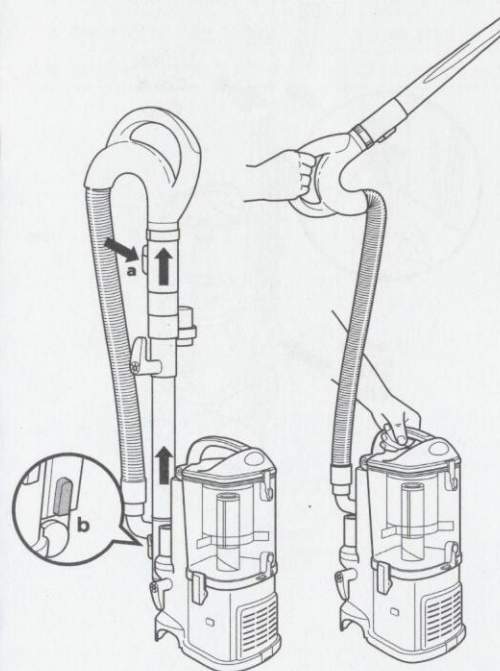

Fig. 13
- 1 Press the Lift-Away button (b), then lift the canister off the floor nozzle. (Fig. 13)